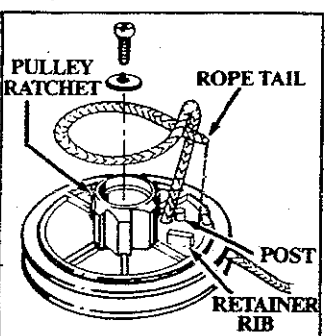

Figure 26
16. Wrap rope counterclockwise \leftarrow around pulley ratchet and tuck loose end back under rope where it comes out of hole. Leave a 1/4 to 1/2 inch tail laying flat on the top of the pulley alongside the retainer rib and between the rib and post. The rope tail *must not* extend beyond the edge of the pulley. Figure 26.